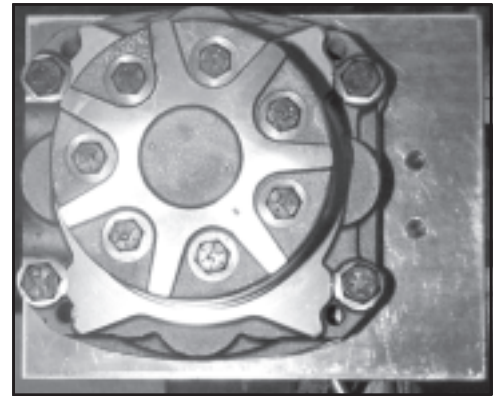

Figure D1
1. Position the brake motor assembly with the shaft down. Make sure the unit is secured in a vice or other suitable device. SEE FIGURE D1